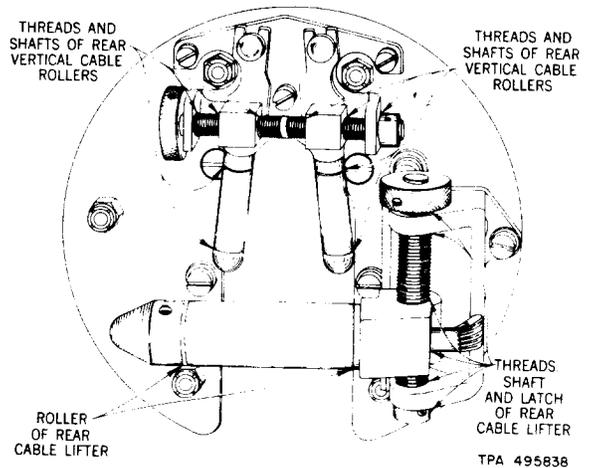

Fig. 5—H Cable Lasher—End View Showing Lubrication Points
3.01 The following parts require *monthly* lubrication with S. A. E. 10 or 20 automotive engine oil. Lubricate more frequently during periods when the lasher is in constant use. Wipe lasher free of excess oil. See Fig. 5 and 6.